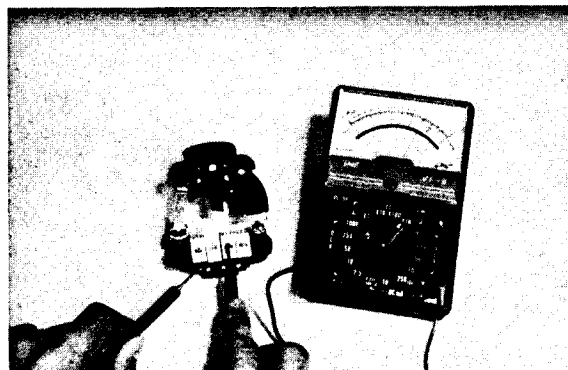

Figure 39
9. Check each diode in the rectifier for conduction (Fig. 39). Connect an ohm meter across the lead wire and diode case. The diode is normal if its resistance is large in one direction and small in the reverse direction. If there is equal resistance in both directions the diode is defective. Replace the rectifier assembly if a diode is defective.